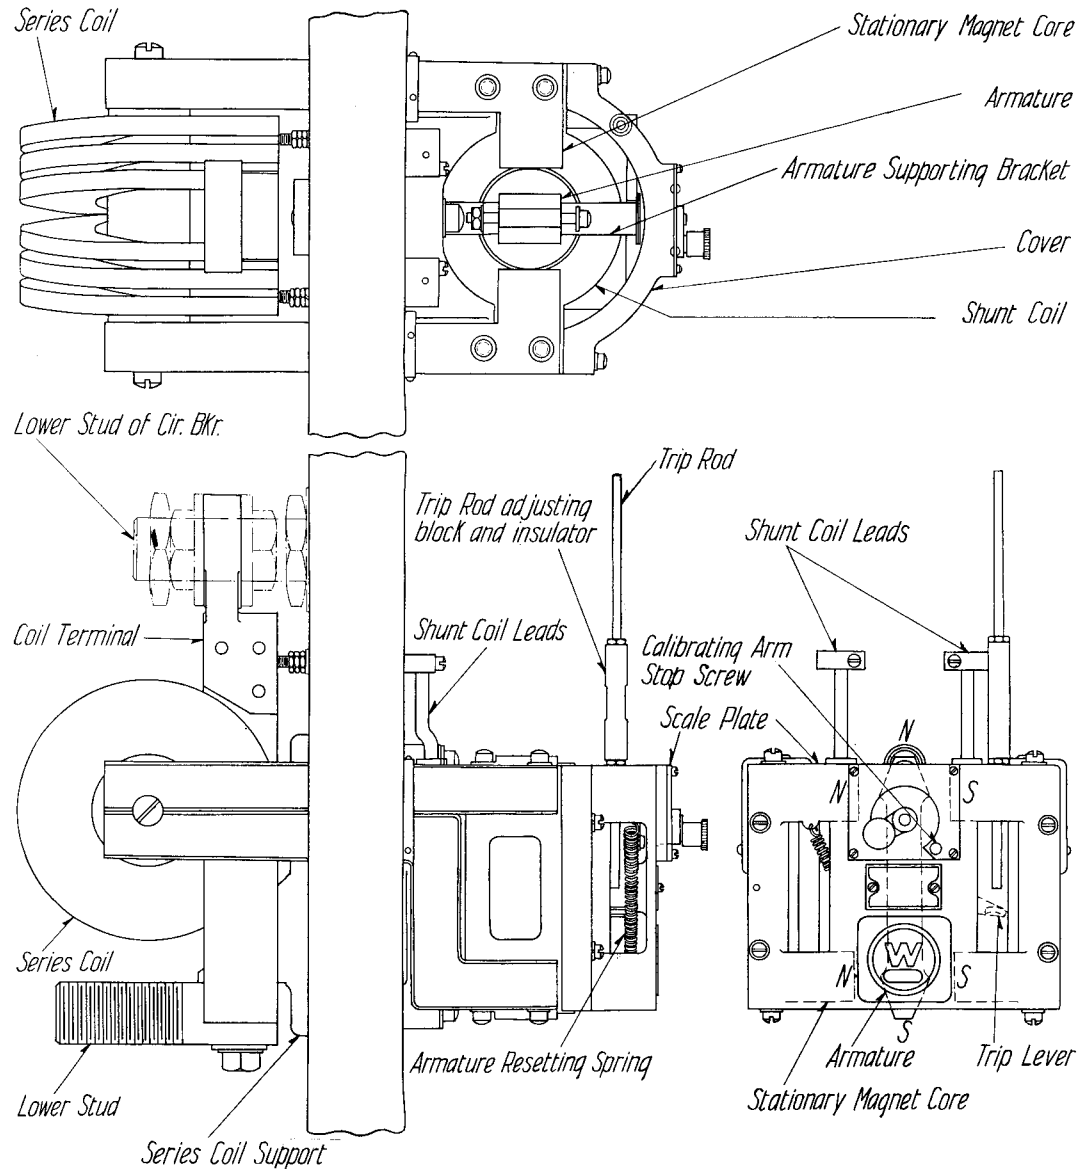

FIG. 14—REVERSE-CURRENT TRIP MECHANISM
**Reverse-Current Trip (Figure 14)**—This device is used to protect a circuit against reversal of power or reversal of current.